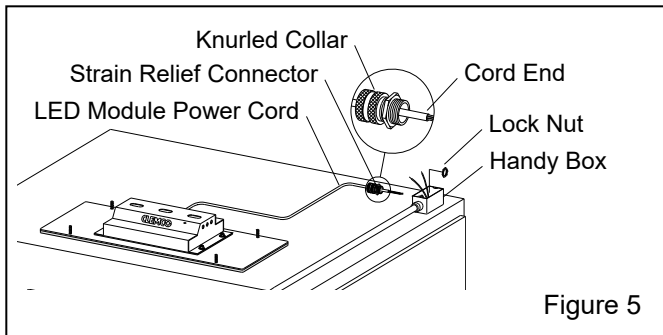

Figure 5
3.6 Loosen the knurled collar on the strain-relief connector and thread the light module power cord into the knurled end of the connector, as shown in Figure 5.